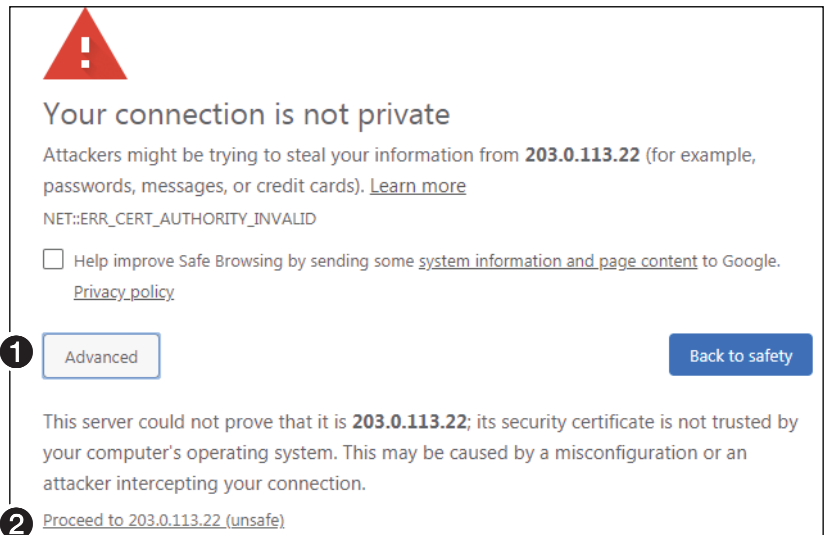

Figure 3. Privacy Error Message (in Chrome Browser)
3. Press the keyboard **<Enter>** key. The browser displays a privacy error message (see figure 3 at right for an example in the Chrome browser).
4. Click **Advanced** (see figure 3, **1**). The button changes to **Hide Advanced** and explanatory text and a link appear below the button.